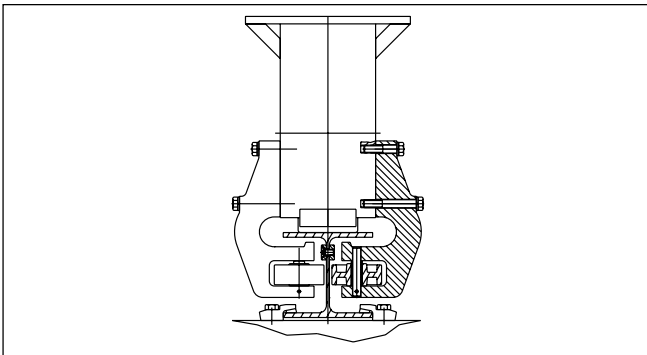

Fig. 5 - Traversing on rails
The trolley is guided along the track by guide wheels (8) placed laterally on the roller frames (Fig. 5).